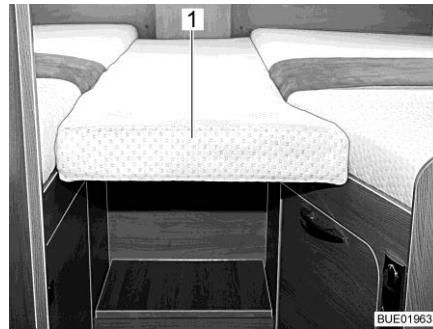
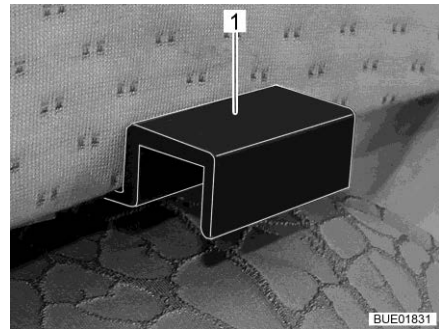

Fig. 172 Additional cushion
Fig. 173 Additional cushion holder
- Hook the additional cushion (Fig. 172,1) with the holders (Fig. 173,1) into the panels of the single beds so that a closed lying surface is created.